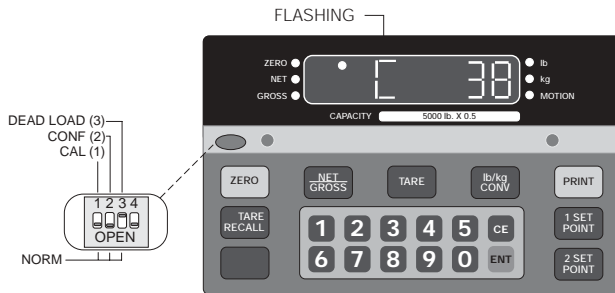

Figure 5-1. Close Switch 3
2. Close SW1-3 (dead load). The leftmost display digit should be flashing *C* as shown in Figure 5-1.